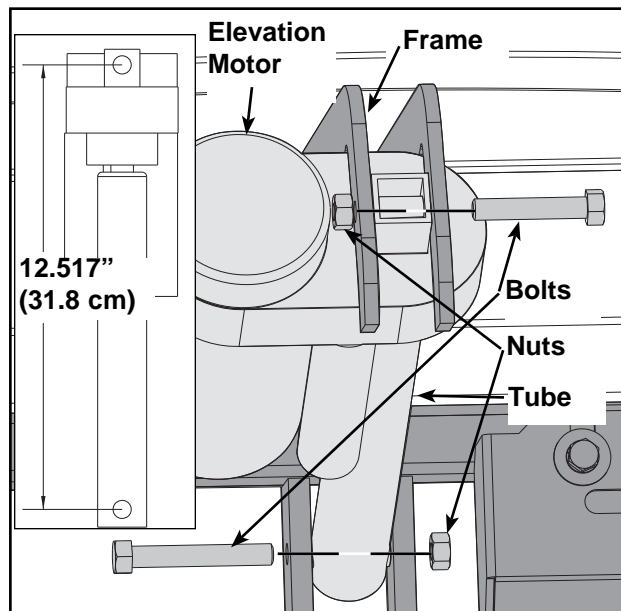

Figure 19
- A. Carefully place the elevation motor in position on the treadmill. See Figure 19.
- B. Slide the upper bolt into the frame and elevation motor and thread the nut onto the top bolt. See Figure 19. **NOTE:** *When viewing from the front of the unit the top bolt goes from the right to the left.*
- E. Connect the main power cord into the power outlet and turn the power switch on (I). **NOTE:** *Wait for the elevation tube to turn and find the zero switch.*
- F. Once the motor stops, turn the tube with your fingers until it measures 12.517" (31.8 cm) from the center of the top hole to the center of the bottom hole. See Figure 19.
- G. Slide the bottom mounting bolt into the frame and elevation tube. See Figure 19. **NOTE:** *When viewing from the front of the unit the bottom bolt goes from the left to the right.*
- D. Stop the treadmill and turn the main power switch in the front panel to the off (O) position.